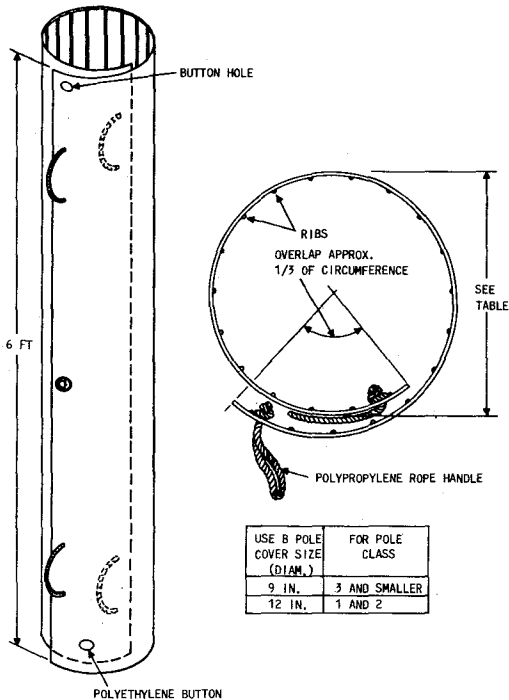
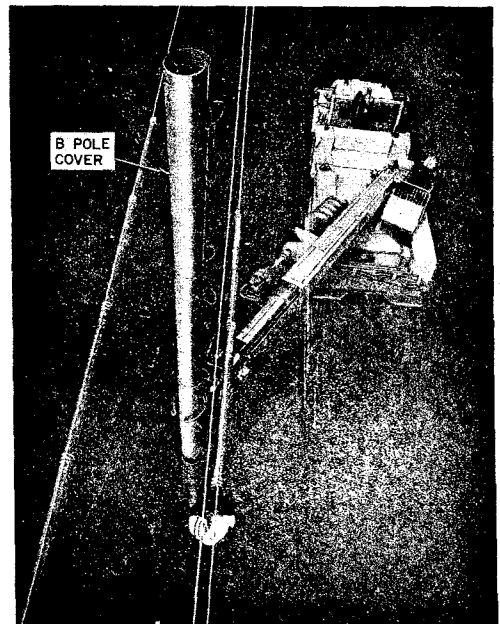

Fig. 1—B Pole Cover
Fig. 2—Pole Insulated With B Pole Cover
4.02 The B pole cover (Fig. 1) insulates the pole against direct contact with uninsulated power wires.
- (1) Raise the top of the pole approximately 1 to 2 feet off the ground.
- (2) Place appropriate size pole cover (Fig. 1) around the pole and position to cover below the lowest point where contact with power conductors is possible.
- (3) The top of the cover should extend approximately 6 inches above the pole. If this cannot be accomplished with one pole cover, additional covers may be placed and joined together by the button and hole at the opposite ends of the cover.
(4) The cover should grip the pole securely and overlap itself by approximately 1/3 of the circumference to avoid alignment of the rope handle holes. If the cover does not grip the pole tightly, use hand pressure to force a tighter fit and tie with rayon twine as described for the rubber blanket (Part 5).
(5) If the cover(s) are to be removed by telephone company personnel, a suitable length of houseline should be attached to each of the rope handles to aid in pulling the cover(s) down the pole.
(6) Set the pole in the standard manner. (See Fig. 2.)